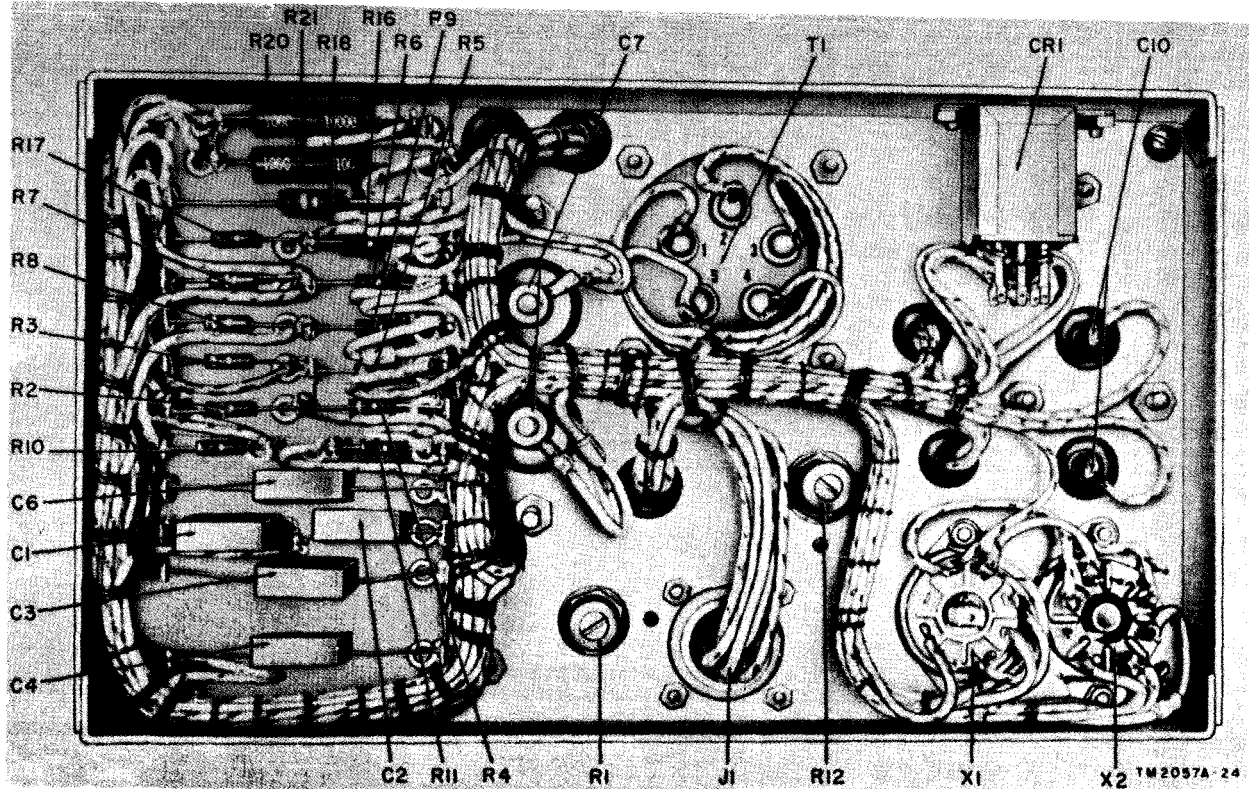

Figure 26. Test Set TS-27B/TSM, bottom view of chassis.
h. TRANSFORMER T1. Remove the chassis from the case (par. 41), and remove the instrument panel from the chassis (subpar. b above). Disconnect the lead from the transformer terminals, on the bottom of the chassis (fig. 26). Loosen the four mounting nuts on the bottom of
i. CAPACITOR C7. Remove the chassis from the case (par. 41). Remove the instrument panel from the chassis (subpar. b above). Disconnect the leads from the capacitor terminals on the bottom of the chassis (fig. 26). Loosen and remove the two mounting nuts on the bottom of the chassis, lift the mounting brackets from the top of the chassis, and remove the capacitor. Install the new capacitor by reversing the removal procedures.
j. OTHER PARTS. Parts, such as resistors, varistors, capacitors, receptacles, etc., are readily replaced and require no special instructions. In some instances, for example in the case of variable resistors, one-hole mounting is used and it is necessary merely to loosen the hexagonal nut to remove the component. In other cases the part may be held in place by mounting screws and nuts. An examination of the part to be replaced will show the method to be followed in making the change. Figures 26 and 27 show the bottom and top of the chassis respectively. After installing new parts, check the circuit with the wiring diagram of figure 21.